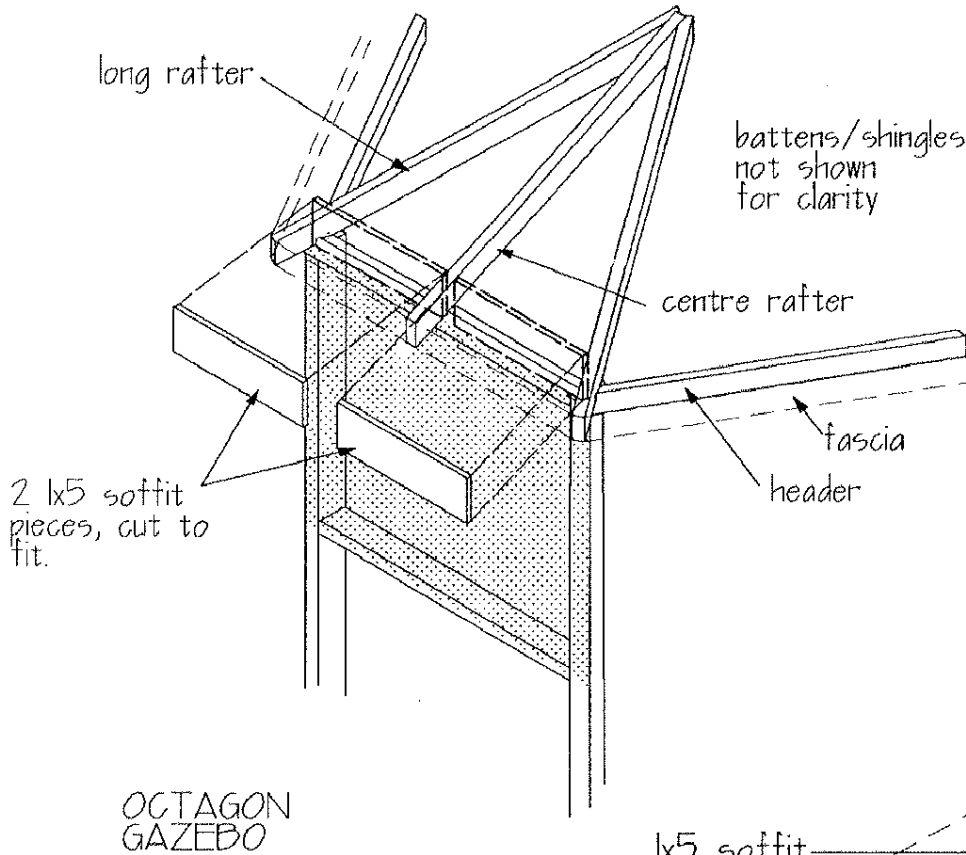

FIGURE F1
1. The 1x5 soffit pieces fill in the openings between the header and the underside of the roof. They are cut to the proper length in the factory. There will be two pieces per side for a total of 16 for octagon Gazebos **[Figure F1]**, and three pieces per side for a total of 24 for hexagon models **[Figure F2]**. Keep in mind that the angle cut ends of a soffit piece should always be butted up against a long roof rafter. The square cut ends will face either a centre rafter or a short rafter.